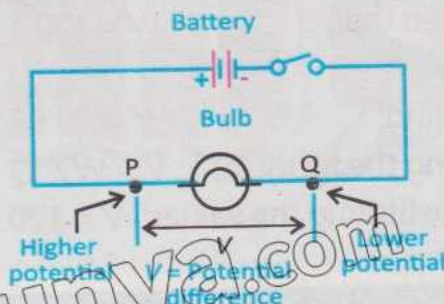

Fig. 16.6: Potential difference across two points in a circuit
The potential difference is the difference in the values of electric potential between two points in the electric field (Fig. 16.6). The unit of electric potential is volt (V). One volt is equals to one joule per coulomb ($V = J C^{-1}$). Potential difference is also called voltage which is the energy used by a component in the circuit. Voltage can also be referred to e.m.f. which is the energy supplied by a source like a battery. Both potential difference and e.m.f. are measured in volts.